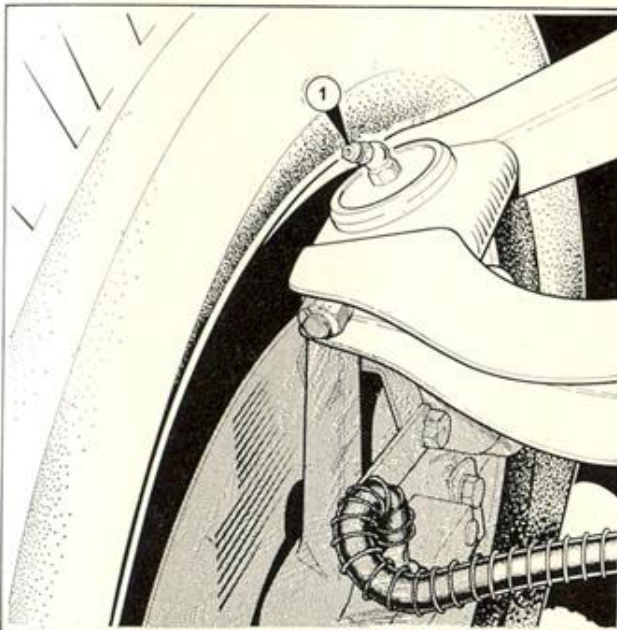
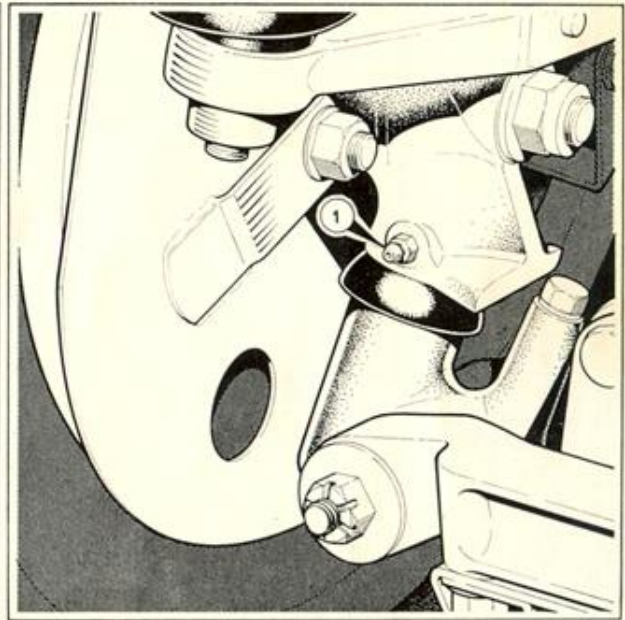

Figure 46 Upper wishbone ball joint
Figure 47 Lower trunnion
Lubricating nipples are situated at the upper wishbone ball joints at (1) see Figure 46 and at the lower trunnions (1) Figure 47. Apply three or four strokes of the grease gun every 3,000 miles (5,000 km).